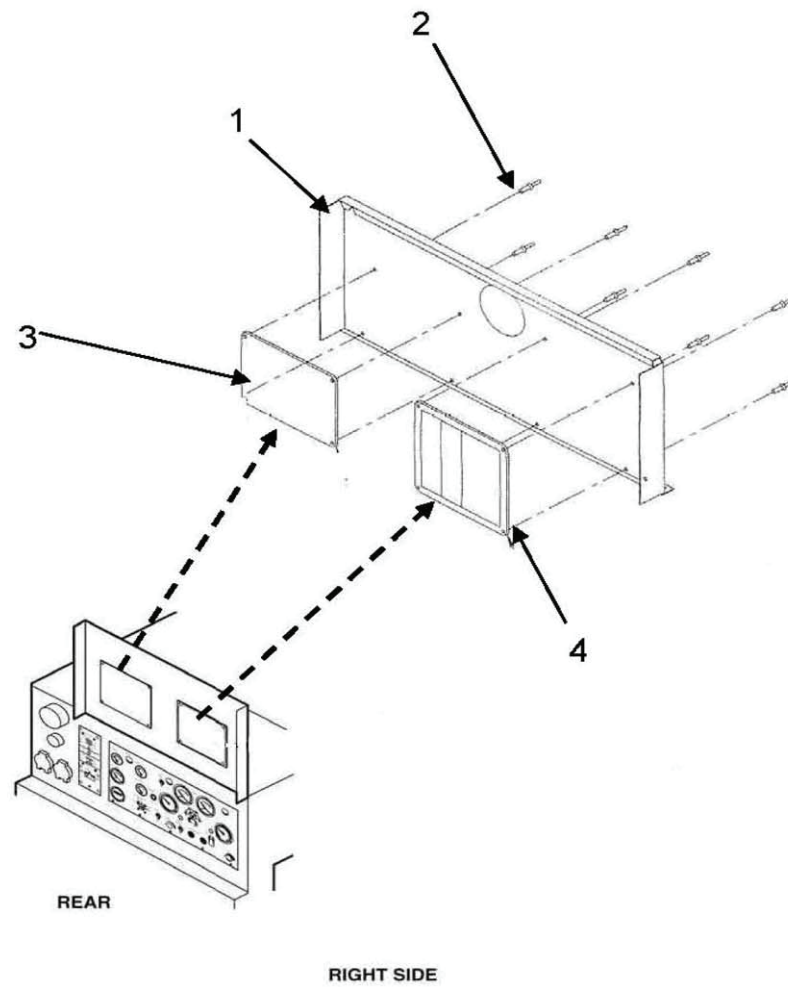

Figure 1. Function Codes Plate/Operating Instruction Plate Maintenance.
1. Lift generator control panel cover (Figure 1, Item 1).
2. Using operation instruction plate (3) as a template, drill four 1/8" inch holes.
3. Install operating instruction plate (3) using four blind rivets (2). Rivet head shall be on the outside of unit.
3. Remove four rivets (2) and operating instruction plate (3).
4. Close control box door (1).
2. Install new operating instruction plate (Figure 1, Item 3) and using four blind rivets (2). Rivet head shall be on outside of unit.
3. Close control box door (1).